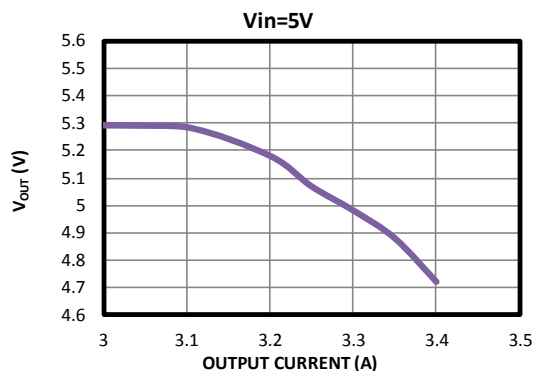

Figure 6: I-V Curve after OC is Triggered
If the over-current (OC) is triggered, and $V_{OUT} < 3.5V$ lasts for 2ms, the MP5032 enters hiccup mode. If OC occurs but $V_{OUT} > 3.5V$, the MP5032 works in constant current (CC) limit mode without hiccup. In this case, V_{OUT} drops while the output current increases slowly. Figure 6 shows the curve of V_{OUT} versus the output current after triggering the 5V current limit.